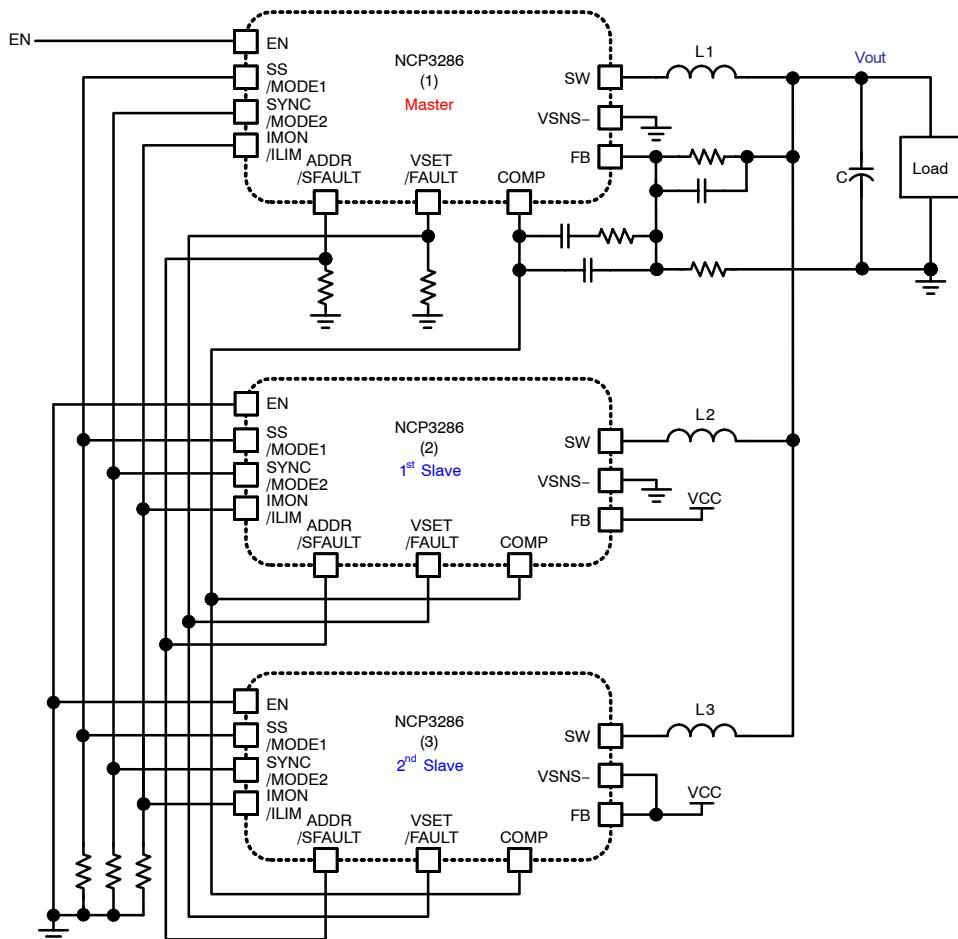

**Figure 2. Typical 12 VIN, 40 A Application Circuit with External 5 V VCC Supply (LDO Disabled)**
5. Operation at <4.5VIN requires external 5 V supply be applied to the VIN and VCC pins per Figure 2.